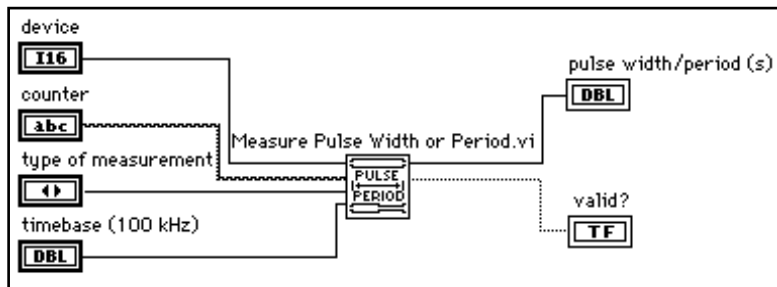

Figure 24-5. Measuring Low-Frequency Signals with Measure Pulse Width or Period VI
For low-frequency signals, you can use the Measure Pulse Width or Period VI, located in **Functions»Data Acquisition»Counter**, as shown below in Figure 24-5. Set the **type of measurement** parameter to a period or pulse measurement. The frequency is the reciprocal of the period value returned. The **valid?** parameter indicates if the frequency was measured without overflow. Overflow occurs when the counter reaches its highest value, or terminal count (TC). You only need to check the **valid?** parameter if you are using an Am9513 chip. The DAQ-STC does not use the **valid?** parameter to set the overflow, so you do not need to check this parameter with this chip.